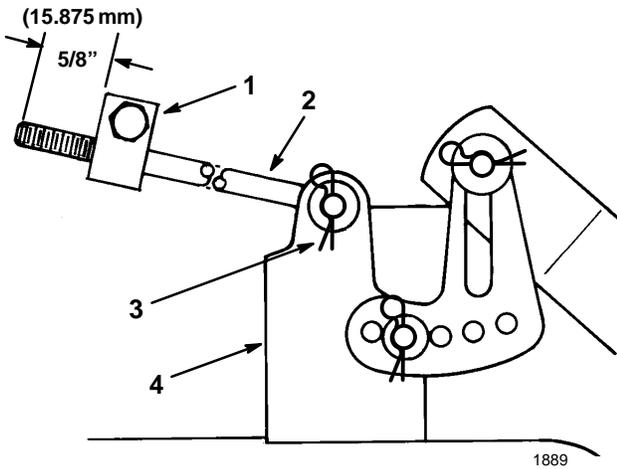

Figure 51
- Measure the length of the rod extending out the front of the adjusting block on the sides of the chassis (Fig. 51). If the rod length is not 5/8" (15.9 mm), remove the hair pin cotter and washer from the end of the rod (Fig. 51), and turn the rod until the 5/8" (15.9 mm) dimension is obtained. Then install the end of the rod into the hole in the mower mount and secure in place with washer and hair pin cotter. Repeat this procedure on the opposite side of the mower.